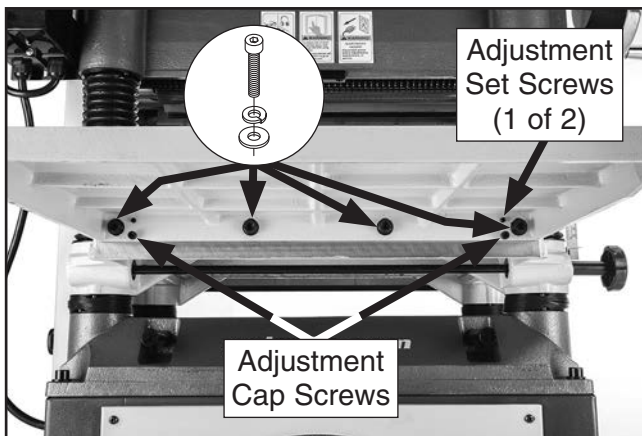

Figure 15. Front extension wing installed (Model G0454ZW shown).
1. **G0453W & G0453ZW:** Attach each table extension wing to planer table with (2) pre-installed M8-1.25 x 25 cap screws, 8mm lock washers, and 8mm flat washers,. Do not fully tighten cap screws at this time.
G0454W & G0454ZW: Attach each table extension wing to planer table with (4) pre-installed M10-1.5 x 25 cap screws, 10mm lock washers, and 10mm flat washers (see **Figure 15**). Do not fully tighten cap screws at this time.